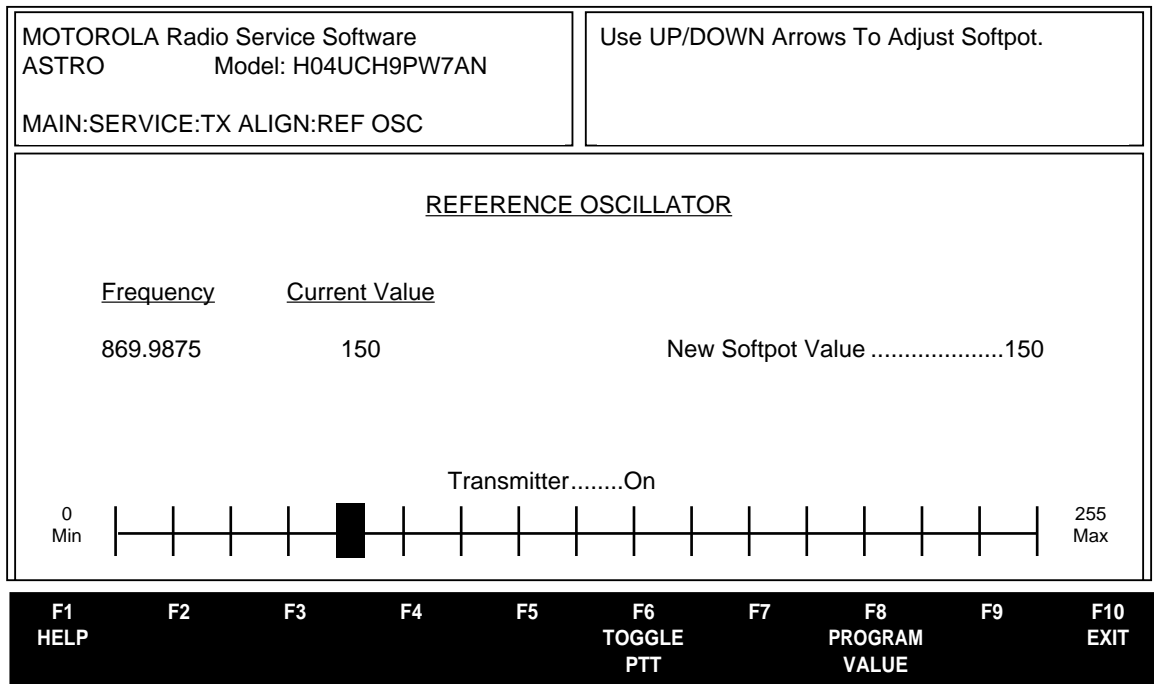

Figure 4. Reference Oscillator Alignment Screen
2. Press **F2** again to select the REFERENCE OSCILLATOR alignment screen. See Figure 4.